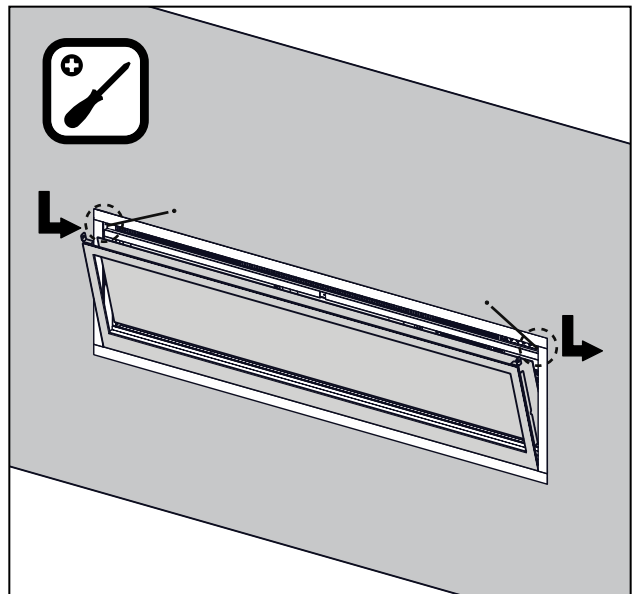

Fig 8
STEP 5: Reinstall the front glass (**Fig 8**). See “Front Glass Installation/Removal” section.